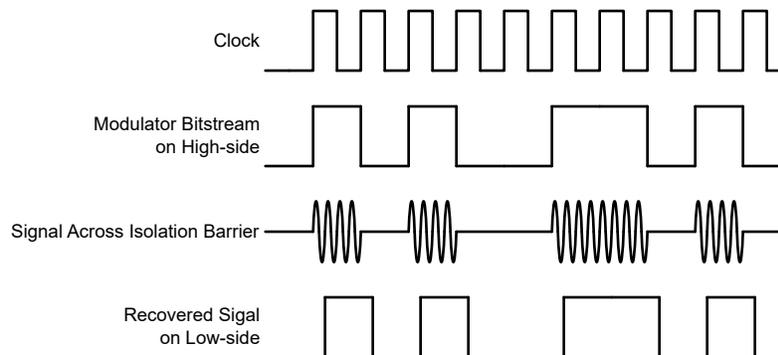

Figure 6-3. OOK-Based Modulation Scheme
The AMC3306M25-Q1 uses an on-off keying (OOK) modulation scheme, as shown in Figure 6-3, to transmit the modulator output bitstream across the SiO₂-based isolation barrier. The transmit driver (TX) shown in the *Functional Block Diagram* transmits an internally generated, high-frequency carrier across the isolation barrier to represent a digital *one*. However, TX does not send a signal to represent a digital *zero*. The nominal frequency of the carrier used inside the AMC3306M25-Q1 is 480MHz.